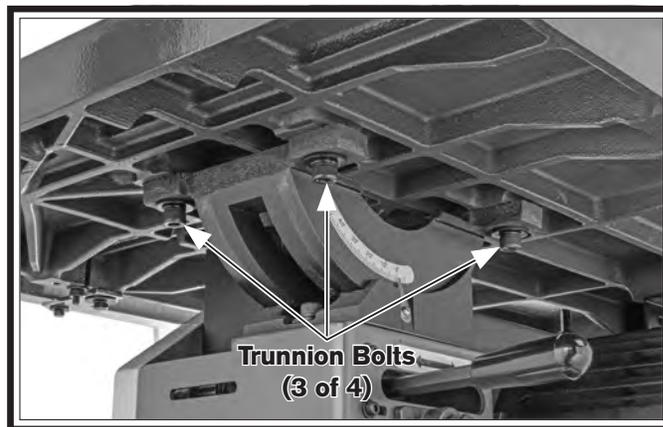

Figure 45. Location of trunnion bolts.
5. Loosen trunnion cap screws that secure table (see **Figure 45**).
3. Determine which trunnion is on low side of table, then remove two cap screws (see **Figure 45**) from low trunnion.